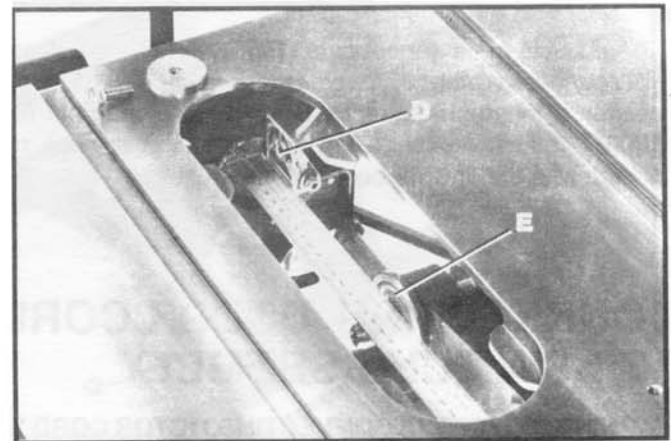

Fig. 22
4. Using a straight edge, check to see if the top and bottom of the inside splitter bracket (D) Fig. 22, is aligned with the inner arbor flange (E), as shown.